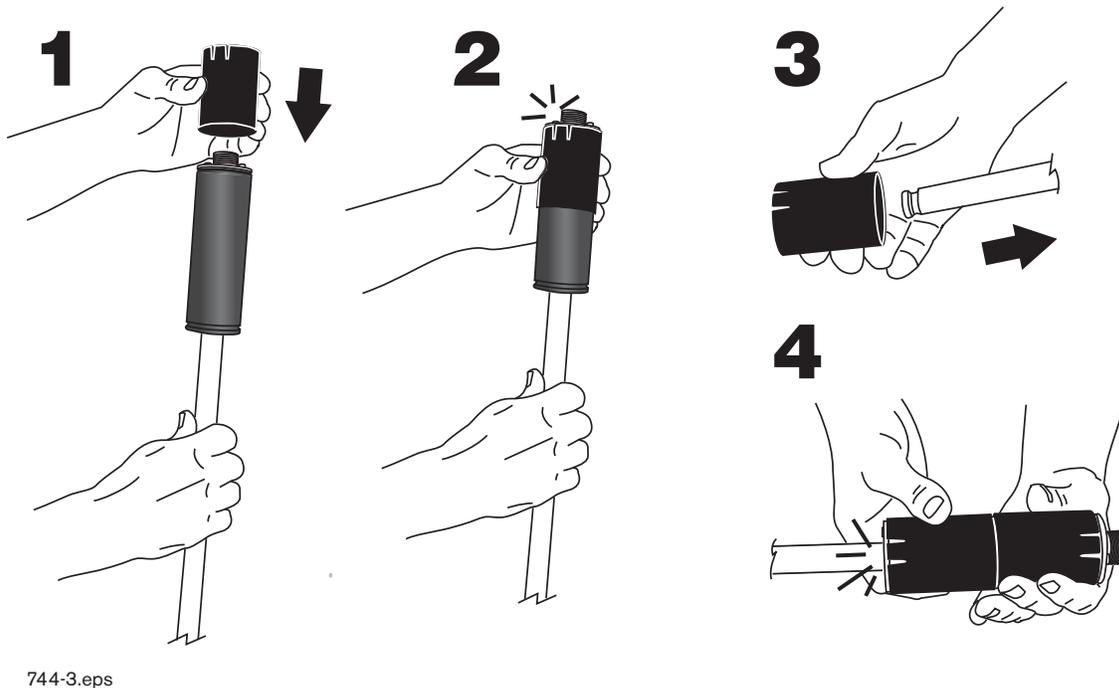

Figure 9. Installing Mag Plus Probe Canister Insulator Sleeves
2. Install the two canister insulator sleeves onto the Mag Plus probe canister as shown in Figure 9.